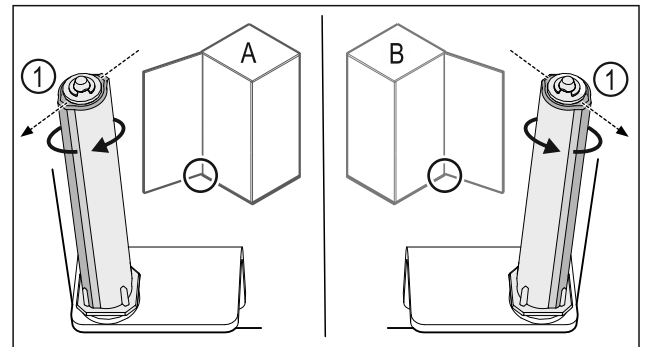

Fig. 57 Left-hinged (A) / Right-hinged (B)
- ▶ Turn the closing system against the resistance until the bar of the closing system Fig. 57 (1) points outwards.